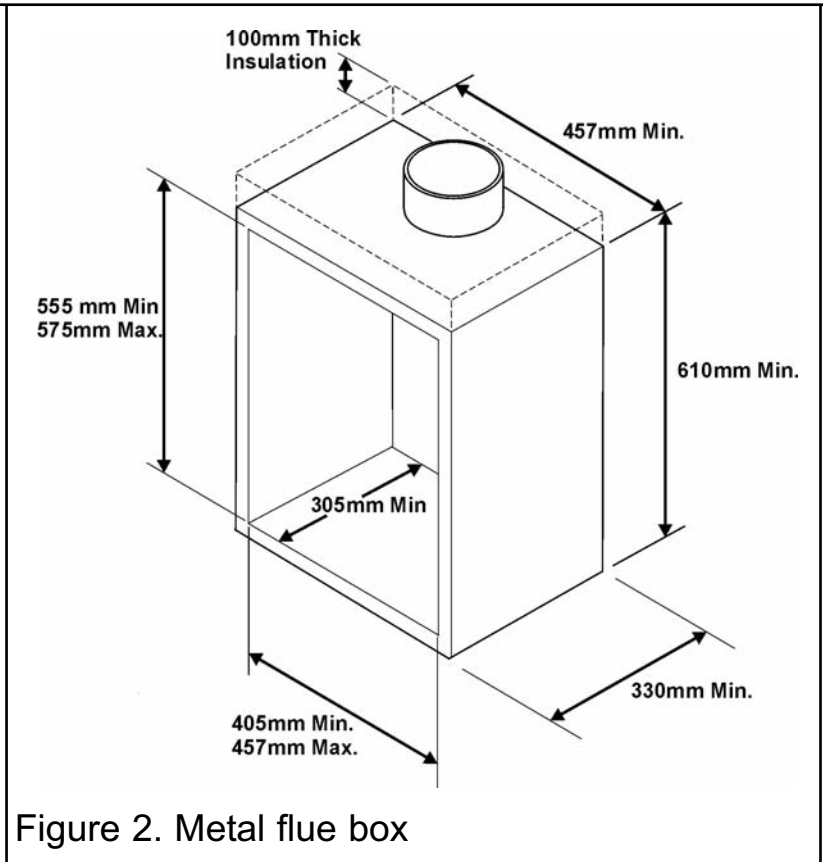

Figure 2. Metal flue box
4.2.2 To a fireplace incorporating a metal flue box complying with the constructional requirements of the current edition of BS EN 1856 Part 1 or BS715. The dimensions of the flue box must conform to those shown in figure 2.